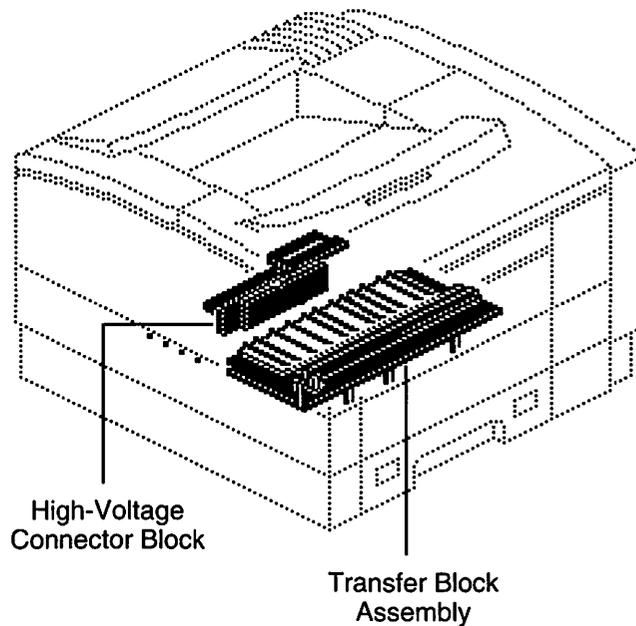

Figure 1-11
- The transfer block assembly transfers high-voltage from the high-voltage power supply through the bottom printer chassis to the toner cartridge and the transfer roller (see Figure 1-11).
- The high-voltage connector block (see Figure 1-11) connects the power supply to the high-voltage power supply and to the fuser assembly.